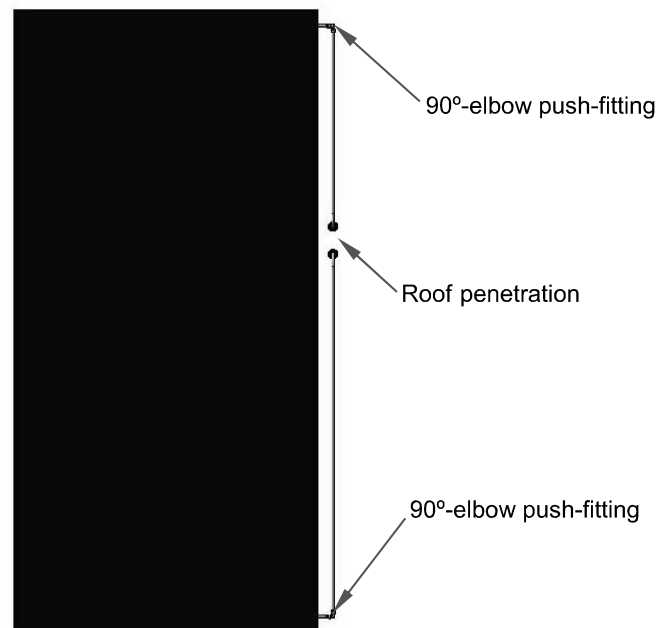

Fig. 6.5.1 – Single-collector configuration.
1. *Install collector immediately next to roof-penetration such that line-set can be covered by side-flashing (Fig. 6.5.1).*